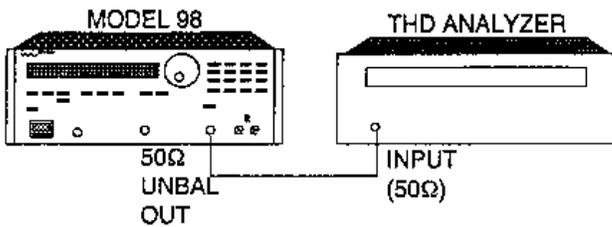

Figure 2-5. THD Measurement
2. Connect the test equipment as shown in figure 2-5.